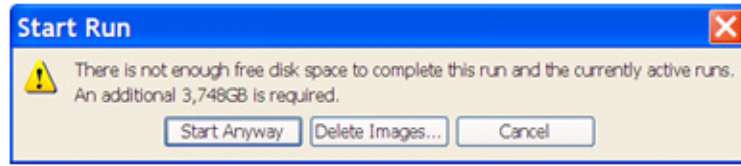

Figure 58 This Start Run dialog appears if there is not enough room to store data for the run.
3. If there is not enough room to store the data for the run then the Start Run dialog box displays (see Figure 58 on page 64). Choose the appropriate option (see Table 9 on page 64).